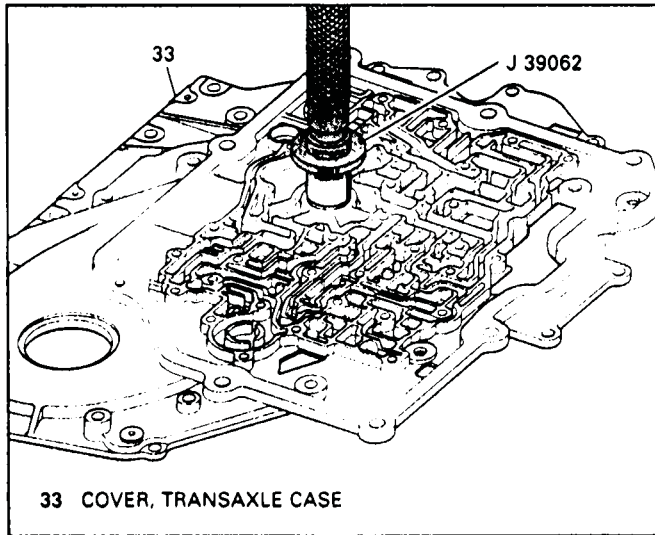

Figure 105
1. Remove case cover to turbine seal with tool J-39062 as shown in Figure 105.